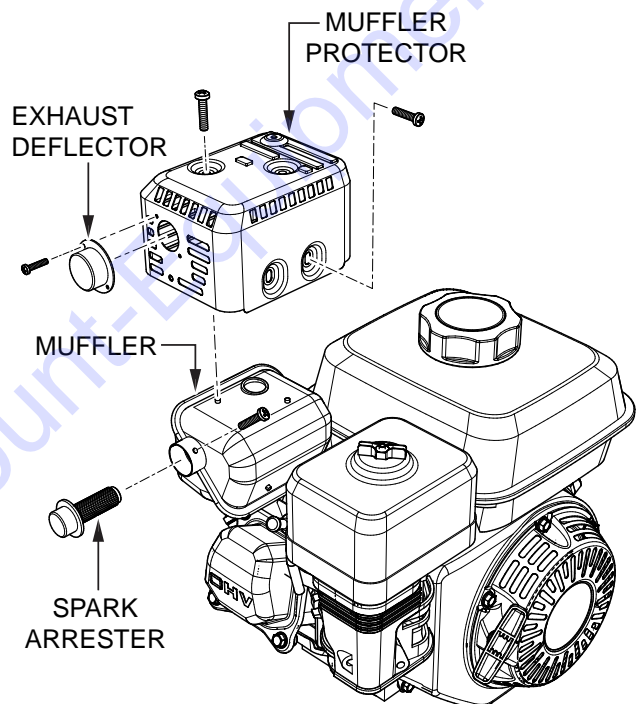

Figure 59. Spark Arrester Removal
1. Remove the screws that secure the exhaust deflector to the muffler protector, then remove the exhaust deflector (Figure 59).
2. Remove the screws that secure the muffler protector to the muffler, then remove the muffler protector (Figure 59).
3. Remove the screw securing the spark arrester to the muffler, then remove the spark arrester (Figure 59).